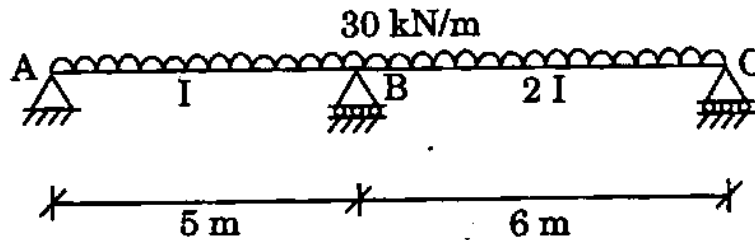

Figure 1
- (b) Analyze the beam shown in Figure 1 using the strain energy method and draw bending moment diagram and shear force diagram. 15